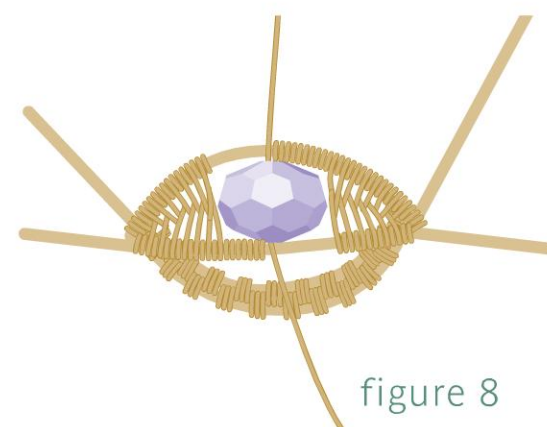

figure 8
- 1 6** Use the wire tails to coil each frame wire until you reach the pen marks. String the bead onto one weaving wire, then pass the second wire through the bead in the opposite direction (Figure 8).